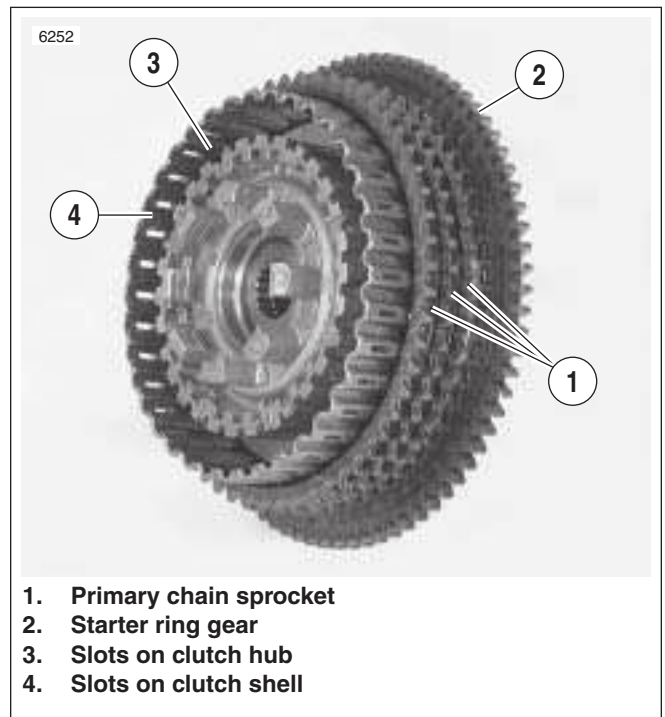

Figure 6-18. Checking Clutch Shell
6. See Figure 6-18. Inspect primary chain sprocket and the starter ring gear on the clutch shell. If either sprocket or ring gear are badly worn or damaged, replace the clutch shell. See 6.5 PRIMARY CHAIN.